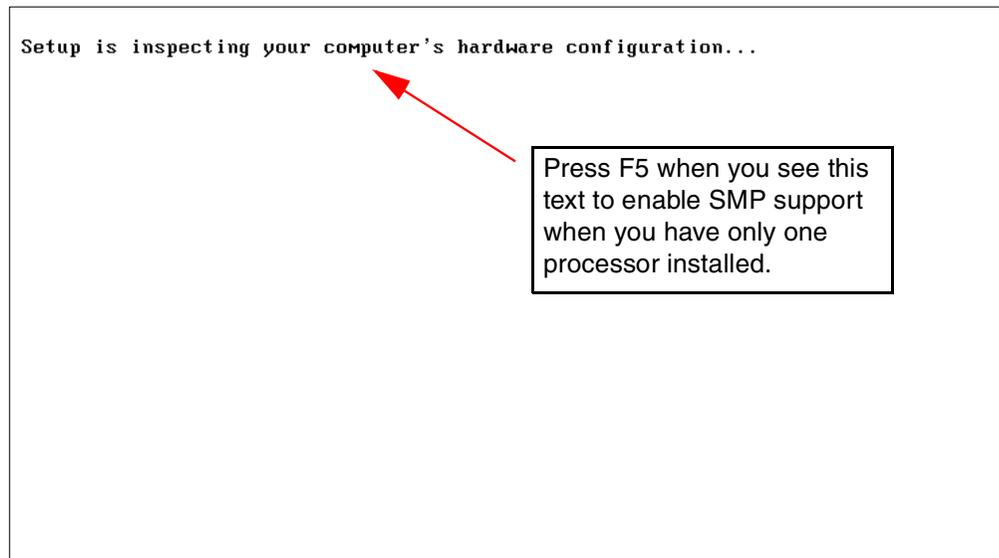

Figure 48. Inspecting hardware configuration
1. Press F5 when you see Figure 48, just after the server boots from the Windows 2000 CD: